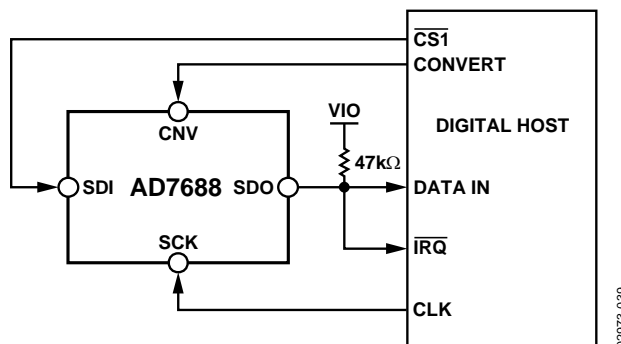
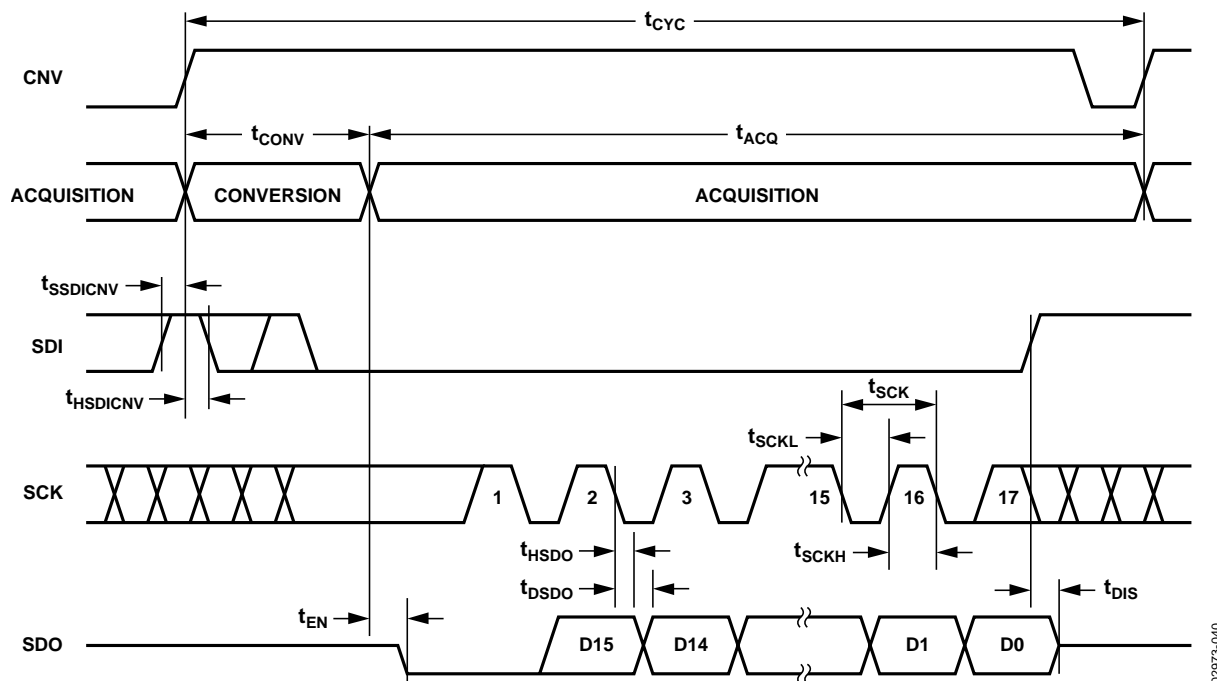

Figure 40. $\overline{\text{CS}}$ Mode 4-Wire with BUSY Indicator Connection Diagram
Figure 41. $\overline{\text{CS}}$ Mode 4-Wire with BUSY Indicator Serial Interface Timing
- In the $\overline{\text{CS}}$ mode, if CNV or SDI is low when the ADC conversion ends (Figure 37 and Figure 41).
The connection diagram is shown in Figure 40 and the corresponding timing is given in Figure 41.